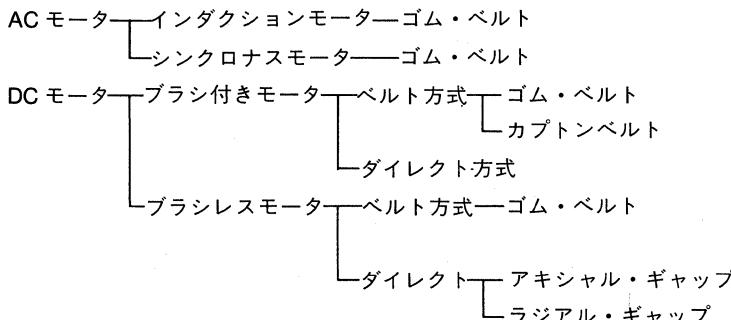

Fig.14
(1) SPINDLE MOTOR (Table1, Fig.14参照)